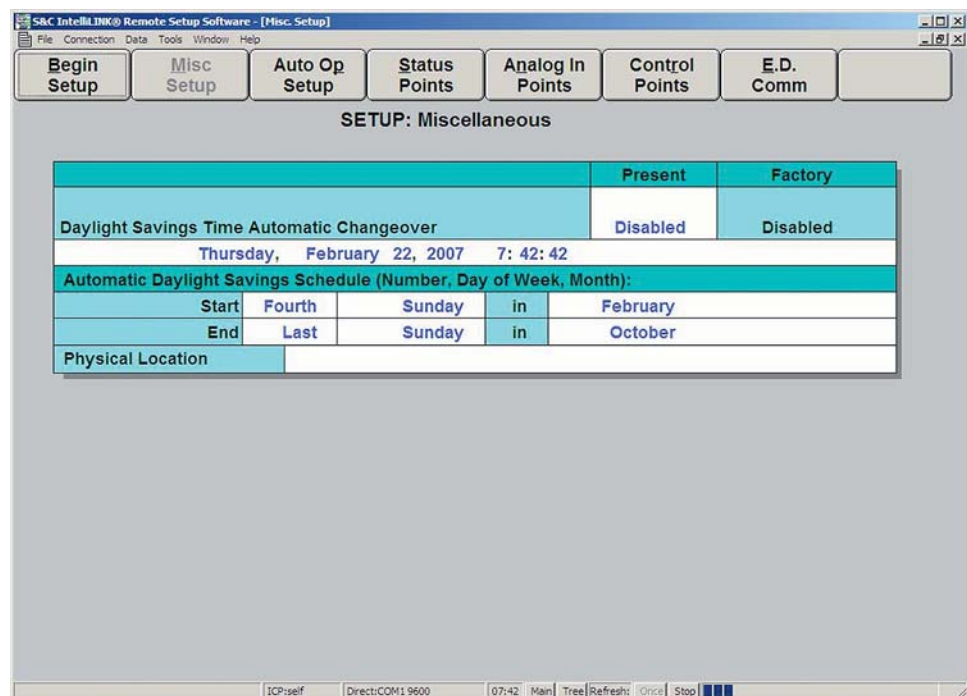

Figure 3. SETUP: Miscellaneous screen.
To add or change a value on a setup screen (for example, the *SETUP: Miscellaneous* screen shown in Figure 3):
3. Click the External Device Menu Button, then the Misc Setup Button, to go to the **SETUP: Miscellaneous** screen. See Figure 3.